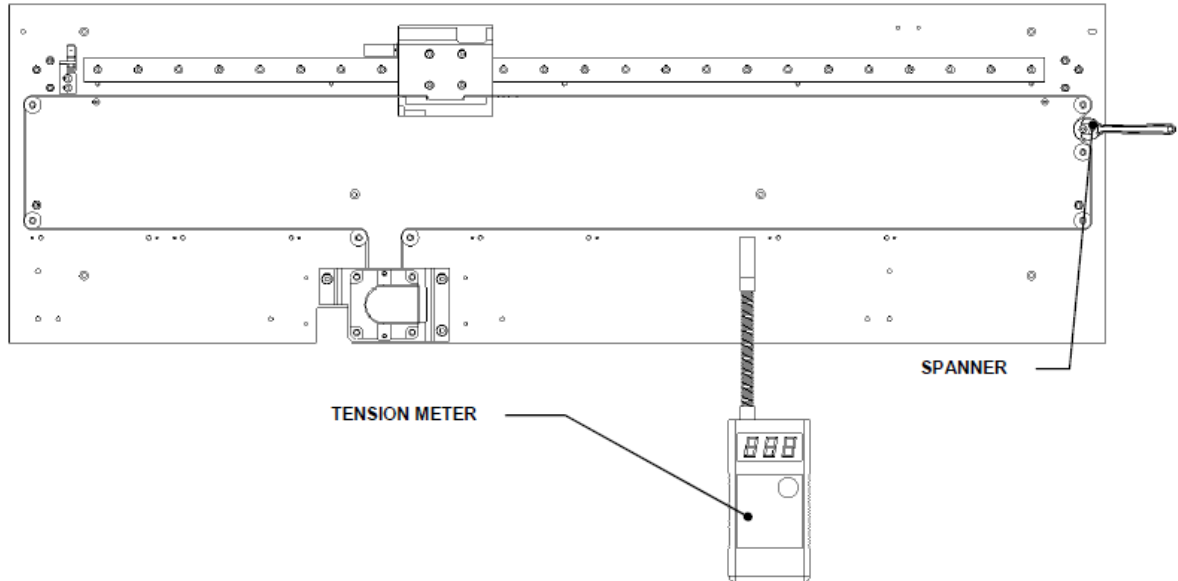

Figure Q-11: Positioning the Tension Meter
3. Position the Tension Meter (Gates Sonic Tension Meter 507C, Brecoflex SM4, or equivalent) at the position indicated in Figure Q-11. The Tension Meter must be 3-6mm away from the belt to obtain a reading.